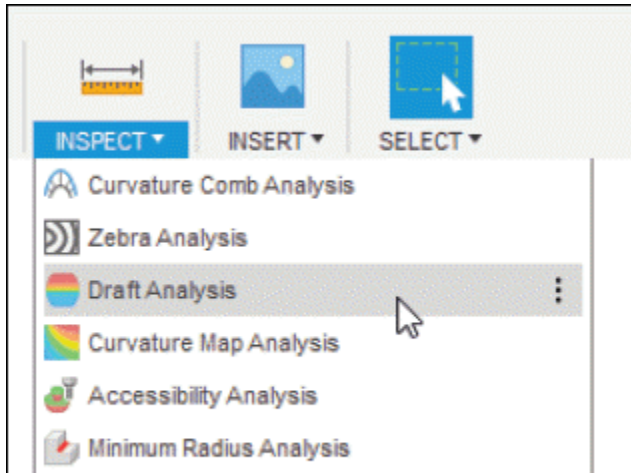
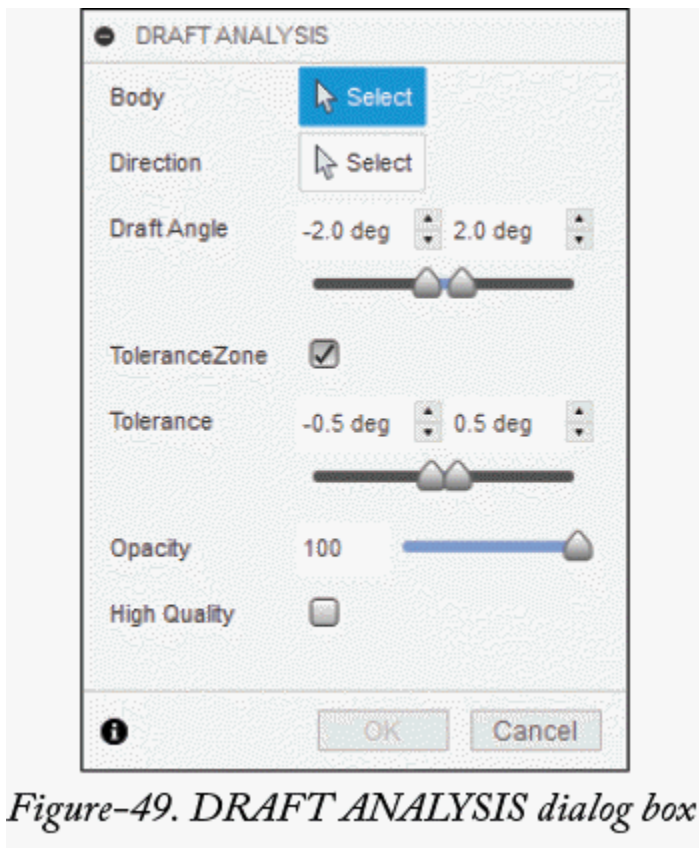

Figure-48. Draft Analysis tool
Figure-49. DRAFT ANALYSIS dialog box
- Click on the **Draft Analysis** tool of **INSPECT** drop-down from **Toolbar**; refer to Figure-48. The **DRAFT ANALYSIS** dialog box will be displayed; refer to Figure-49.